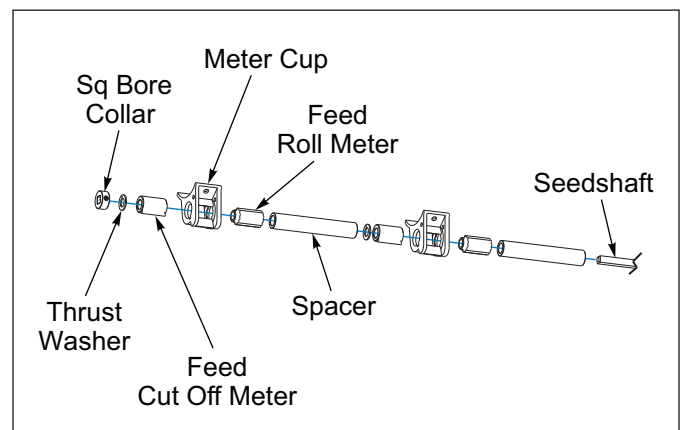

Figure 5-6: Seed Shaft Assembly
- Ensure that the Thrust Washers are adjacent to Seed Meter Feed Cut Offs and Spacers or Square Bore Collars. See **Figure 5-6**.